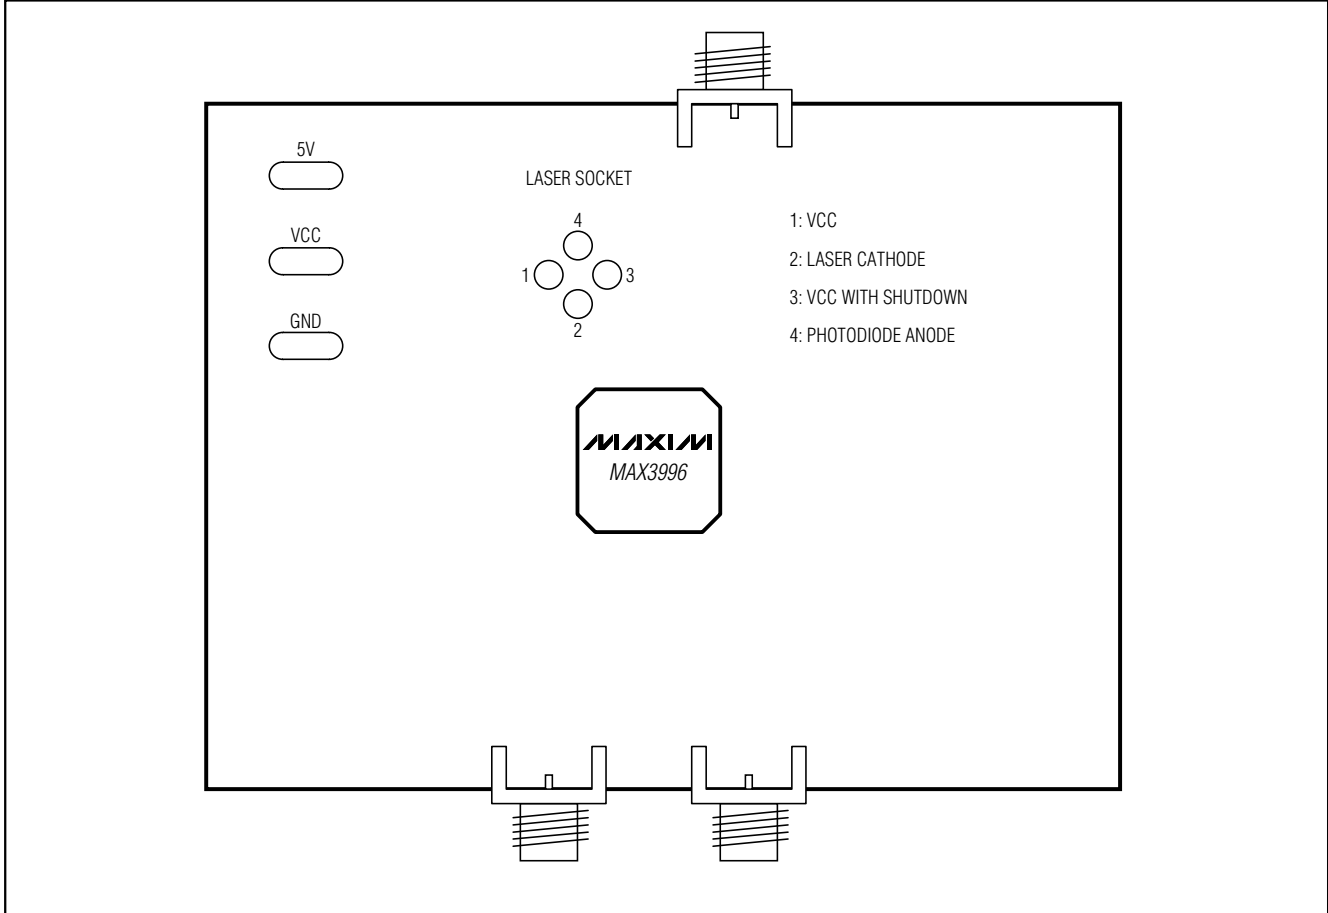

Figure 1. Optical Connection Diagram
- 2) Make sure nothing is installed in the laser socket (Figure 1).
- 3) Connect a laser to the board (Figure 1).